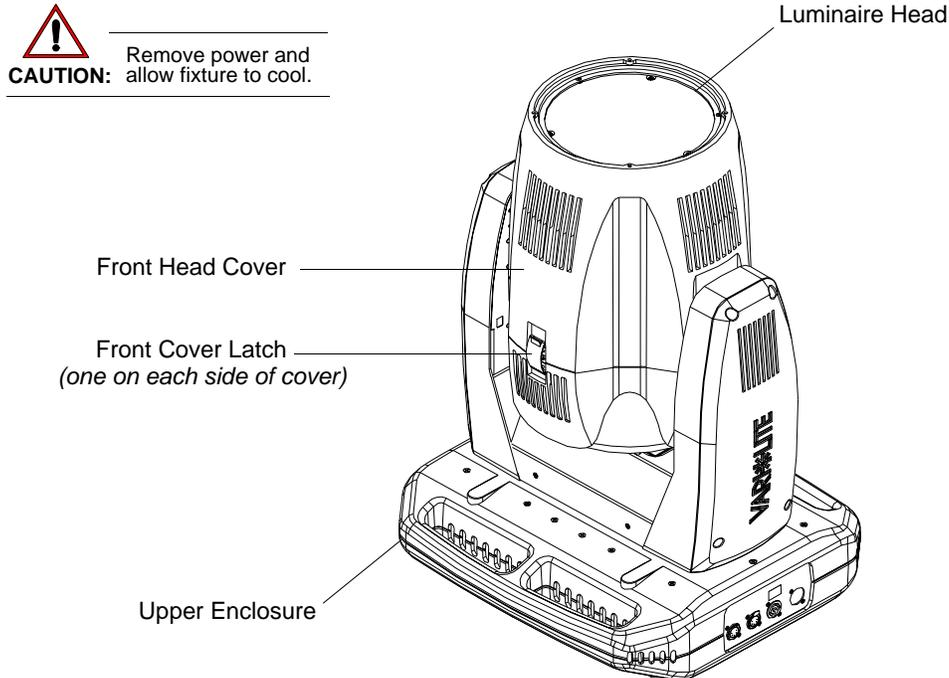

Figure 2-1: VLX Wash Luminaire
- Step 2. Carefully set luminaire on upper enclosure, rotate head as shown in Figure 2-1, and engage tilt lock.